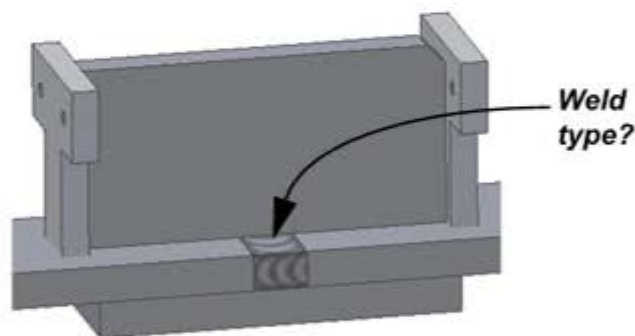

Figure 17–48
3. Which type of weld is shown in Figure 17–48?